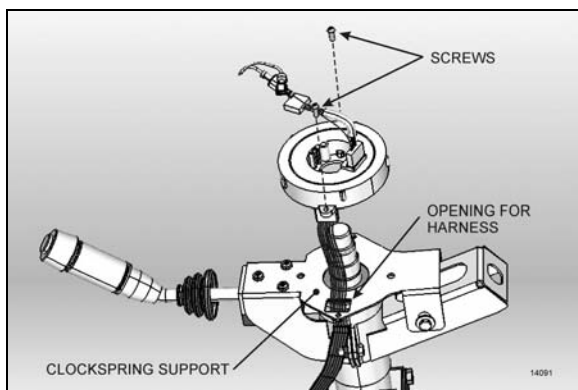

FIGURE 14: CLOCKSPrING INSTALLATION
2. Remove the 2 clockspring mounting screws and then remove the clockspring. You will have to disconnect the clockspring harness connector located lower along the steering wheel column (Figure 14). If necessary, remove the steering column covers.
3. Route the new clockspring harness through the opening in the clockspring support (Figure 14). Plug the connector at the base of the steering wheel column and fix harness along the steering wheel column.